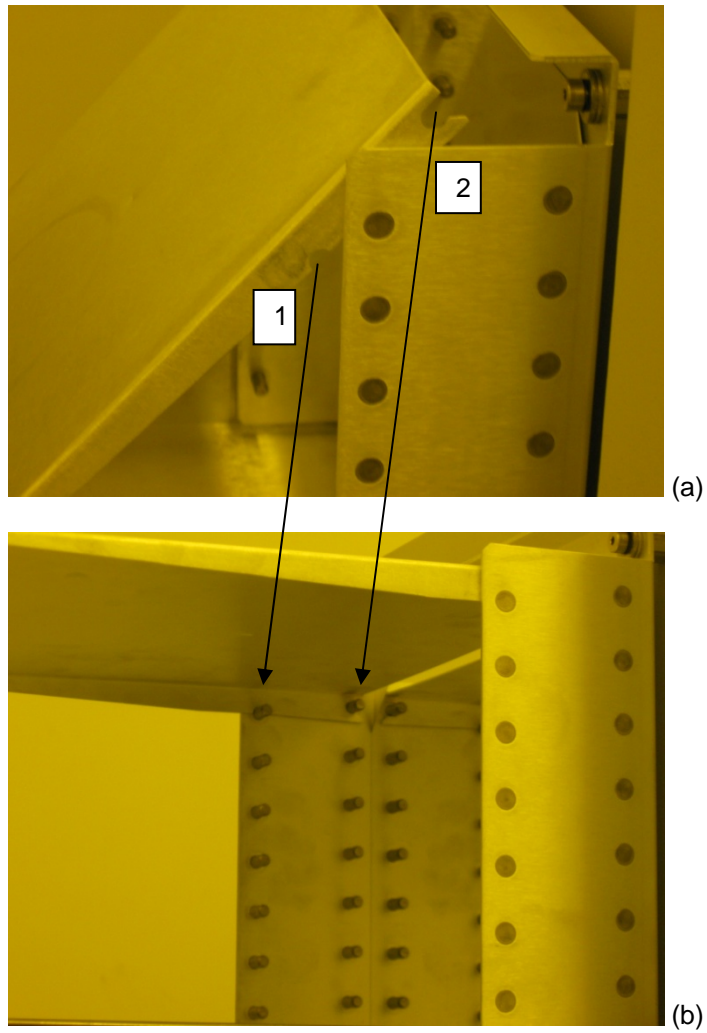

Figure 5: Shelf height adjustment. In (a) shelf is placed tilted for illustration only.
The shelf has seven positions that are 1 inch apart. The higher the shelf is the higher is the UV light intensity but the light uniformity is worse. The best uniformity of $\pm 15\%$ over entire shelf surface is achieved at the lowest shelf position. The light intensity at the center of the shelf for different shelf heights is given in Figure 5 with no screen and 25% open screen. Currently, 25% open screen is installed.
- b) Note that the shelf has two notches on each side marked 1 and 2 in Figure 5.